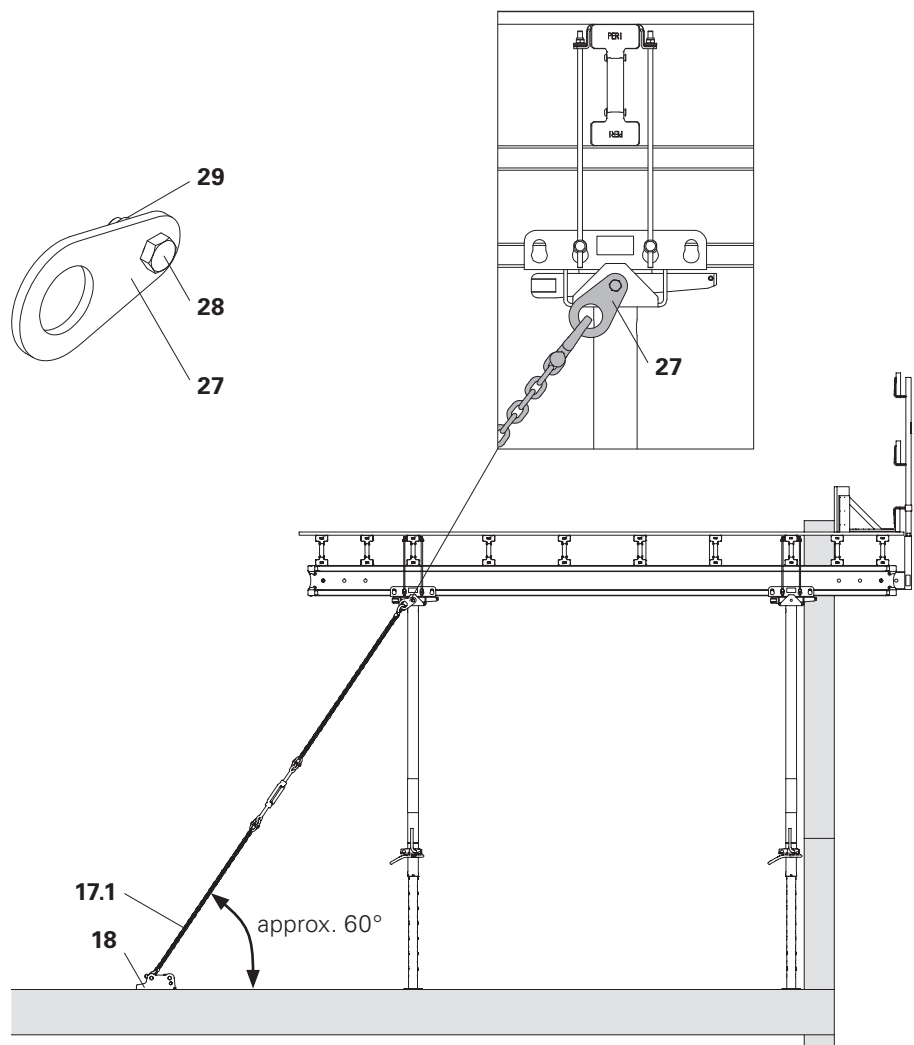

Fig. B2.11
1. Fix Tension Sleeve TK (27) to the Table Head TK (26) using the Bolt ISO 4017 M12 x 30-8.8 (28) and Nut ISO 7042 M12-8 (29).
2. Fix the Base Plate-2 for RS (18) to the ground.
3. Attach Anchor Chain 3.0 kN, L = 2.5 m (17.1) and tension. (Fig. B2.11)